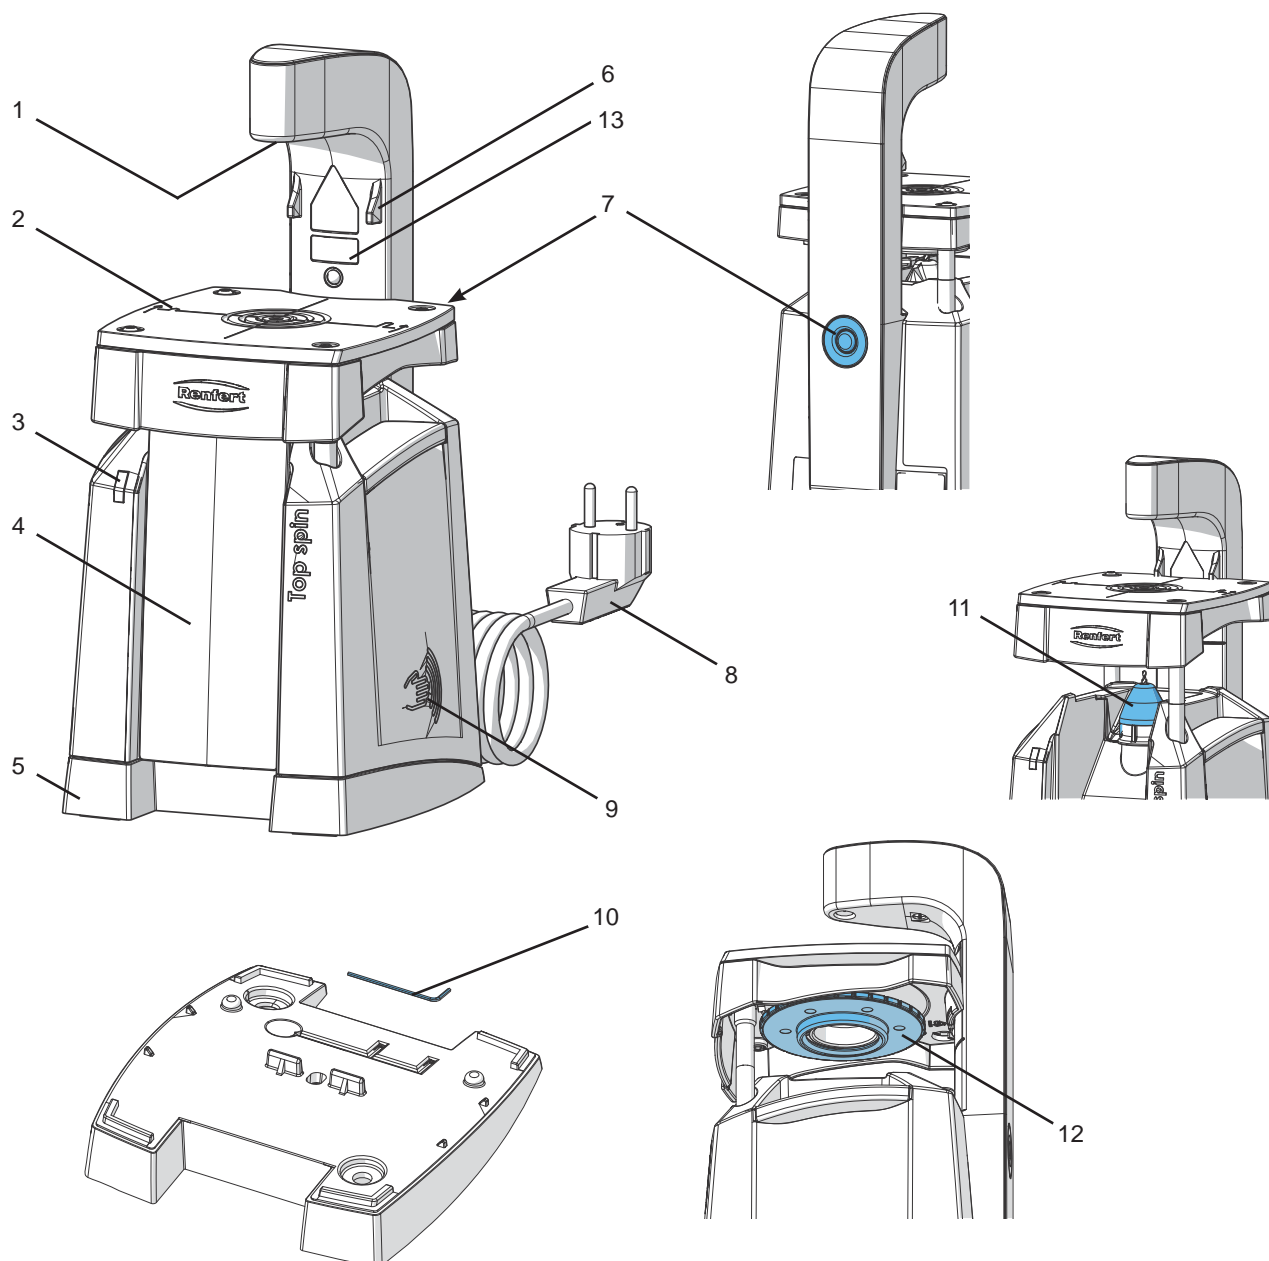

Fig. 1
- ⇒ Remove the laser warning label in your language from the sticker set and stick over the present warning label (13, Fig. 1).
⇒ Place the dental arch onto the drilling table (2, Fig. 1) and align the target laser (1, Fig. 1).
- ⇒ Lift the drilling table (2) up to its top position (6).
- ⇒ Brush the dust residues into the Dust Drawer or remove them by knocking gently (4, Fig. 1),
- ⇒ Pull off the dust protection hood (11, Fig. 1).
- ⇒ Press the spindle lock (7, Fig.1) and turn the drill jig (22) until the spindle lock clicks into place.